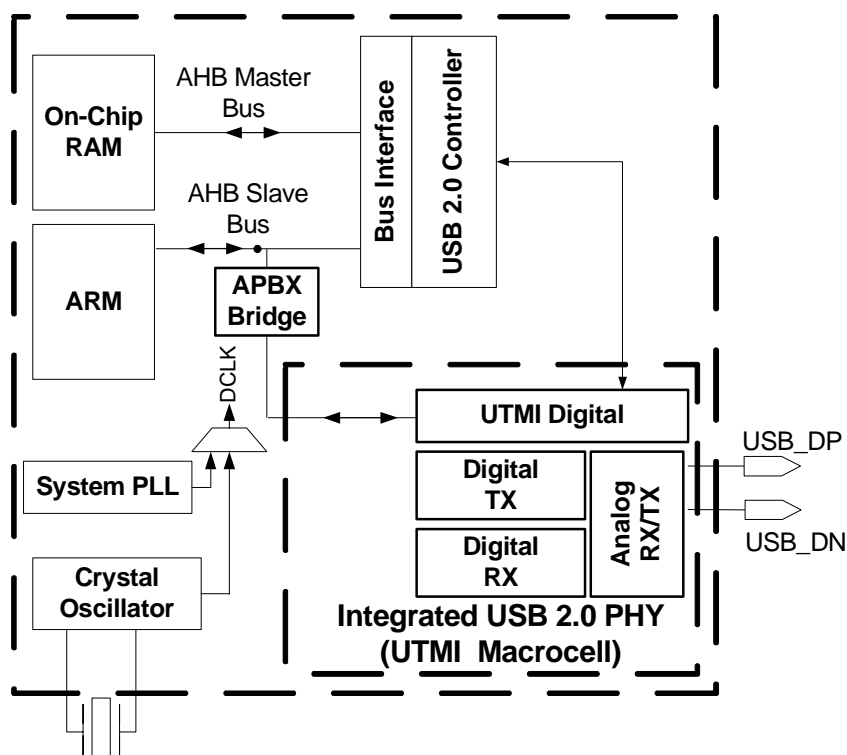

Figure 27. USB 2.0 PHY Block Diagram
The STMP3770 contains an integrated USB 2.0 PHY macrocell capable of connecting to PC host systems at the USB full-speed (FS) rate of 12 Mbits/s or at the USB 2.0 high-speed (HS) rate of 480 Mbits/s. See Figure 27 for a block diagram of the PHY. The integrated PHY provides a standard UTM interface. The USB\_DP and USB\_DN pins connect directly to a USB device connector.